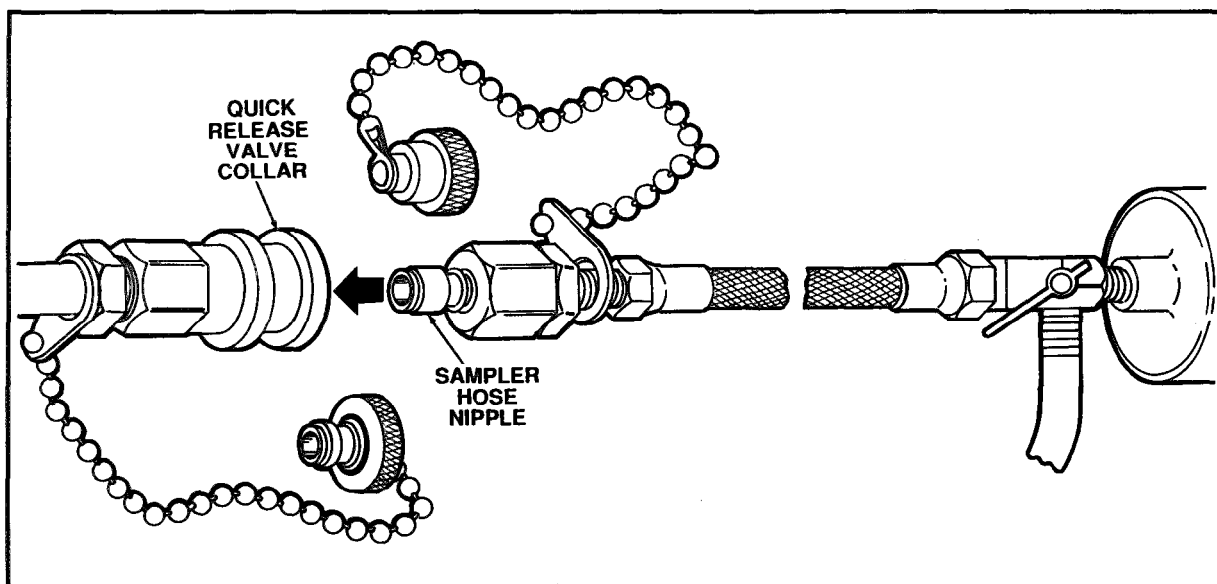

Figure 2.9 Inserting Sampler Hose Nipple into Sample Valve Collar
- c. Insert the sampler hose nipple into the quick-release valve collar (Figure 2.9): retract the valve collar and insert the nipple firmly into the valve. Release the collar when the nipple is seated.